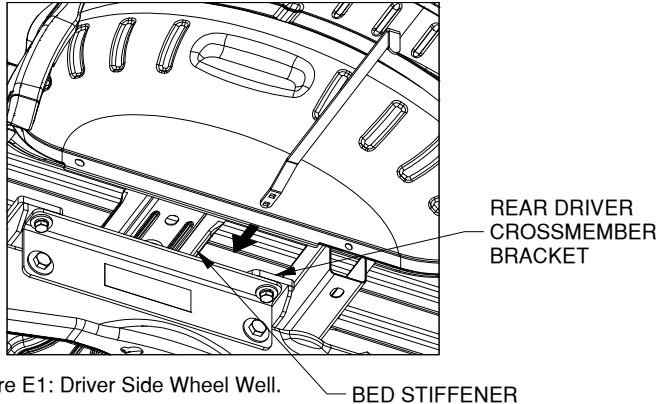

Figure E1: Driver Side Wheel Well.
1. **Position handle.** There is very little room between the bed and the frame. From the outside of the driver side wheel well, Pass the handle over the frame between the bed stiffener and the rear driver crossmember bracket as shown in figure E1. The handle will have to be pushed toward the cab once the end with the holes is past the frame.